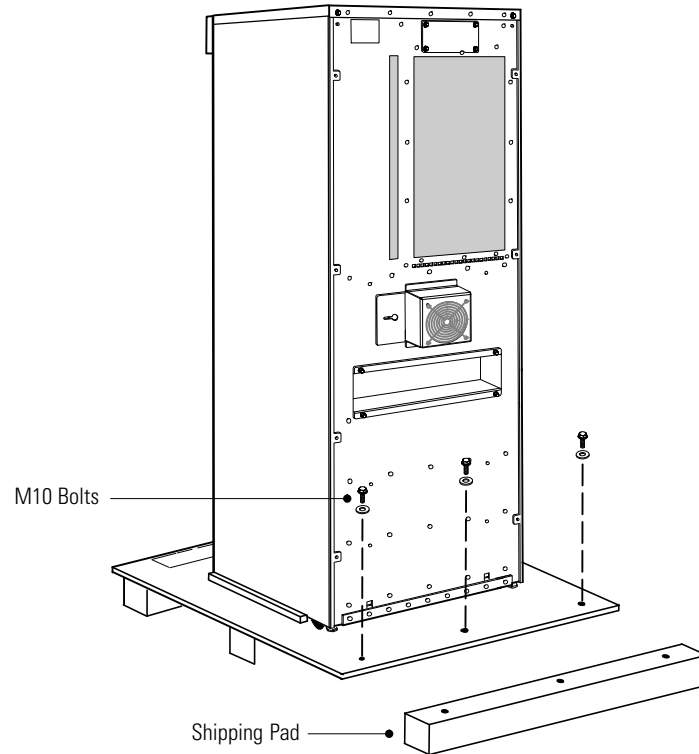

Figure 5. Removing the Shipping Pad (UPS Shown)
3. Remove the three M10 bolts securing the rear shipping pad to the pallet and remove the shipping pad (see Figure 5).